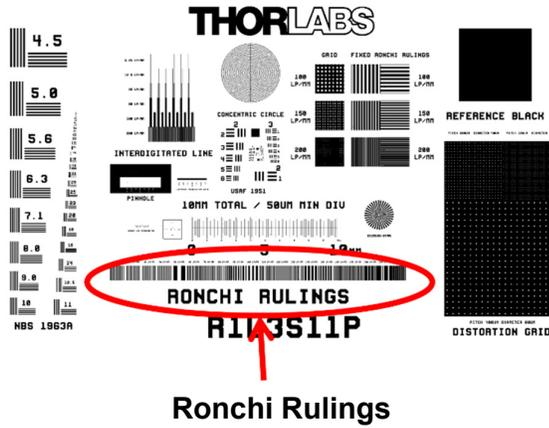

Figure 4: Ronchi ruling placement. The line spacings are printed on the target just above each set of lines.
26. Focus on the most closely-spaced set of lines (200 lp/mm, on the right in Fig. 4). Set up for proper imaging of the sample; make sure while you are focusing that you have a line profile window open for the sample (mono) camera, and that you are using all of the camera dynamic range (i.e. the line profile is near the maximum value – but not saturating! – when it hits a light area).
28. Now shift the sample to image the most widely-spaced set of lines (on the left in Fig. 4). If your focus was good before, it is probably best to leave it alone. Set up for proper exposure so you are using all of the camera dynamic range (i.e. the line profile is near the top when it hits a light area).